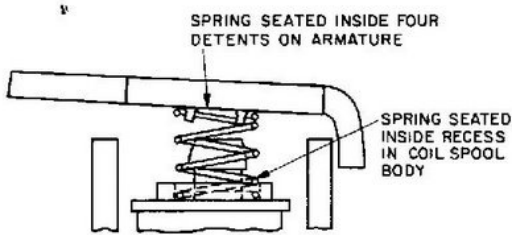

Fig. 8. Outline drawing of armature spring.
5. Slide the frame and coil assembly back between the molded side plates with the armature spring positioned as shown in Fig. 8.
7. Check the power contact gaps and wipes per the Power Contact Adjustments section of this instruction publication. Also, check the electrical interlock and, if necessary, readjust per the section on Electrical Interlock Adjustments in this instruction publication. Make sure the armature spring is properly seated as shown in Fig. 8.
b. Replace the worn contacts and reassemble the contactor, taking care that the stationary contact strips, the coil terminal strips, and the armature tongues are all properly positioned in their respective slots in the side plates. Make sure the armature spring is positioned as shown in Fig. 8.